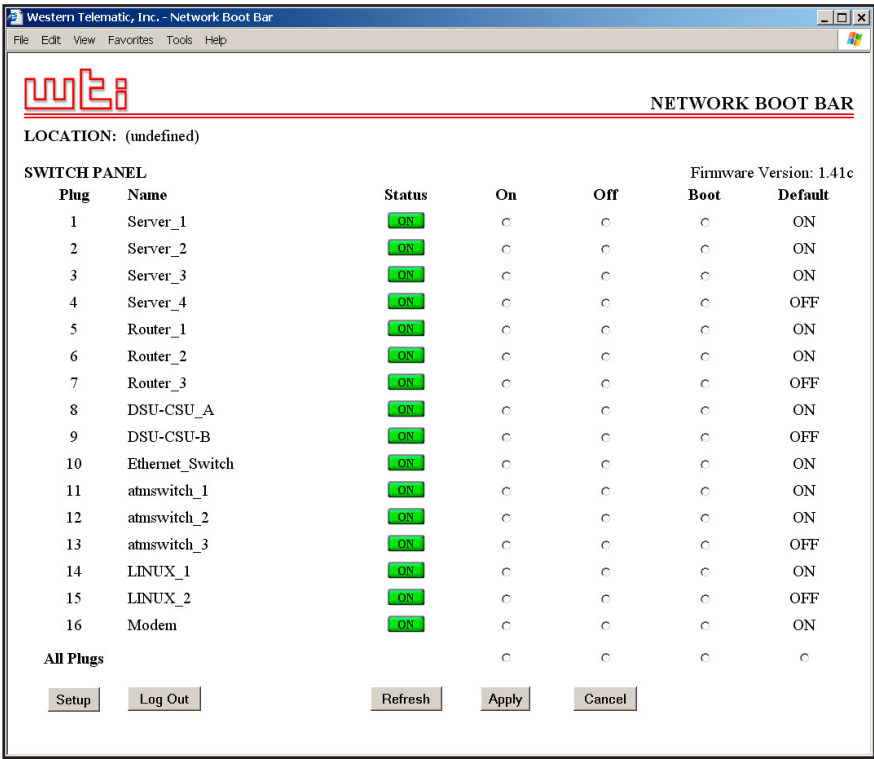

Figure 6.1: Plug Status Menu - Web Browser Interface (Sample Values Shown)
When you log on to the NBB command mode, using the Web Browser Interface, the first screen that is displayed after login is the Plug Status Screen (or "Switch Panel".) The Plug Status Screen (Figure 6.1) lists the current On/Off status of the NBB's Switched Outlets and provides a series of "radio buttons" which are used to control switching and rebooting of the outlets.
2. When the Plug Status Screen (Figure 6.1) appears, note that the screen includes a status field and switching and reboot controls for each of the NBB's Switched AC Outlets.